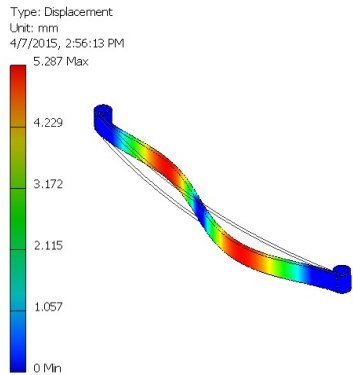

Figure 18-62 The mode shape of the first natural frequency
2. Choose the **Run** button from the **Simulate** dialog box; the solving procedure starts and the mode shape of the first natural frequency contour is displayed in the drawing area, as shown in Figure 18-62.